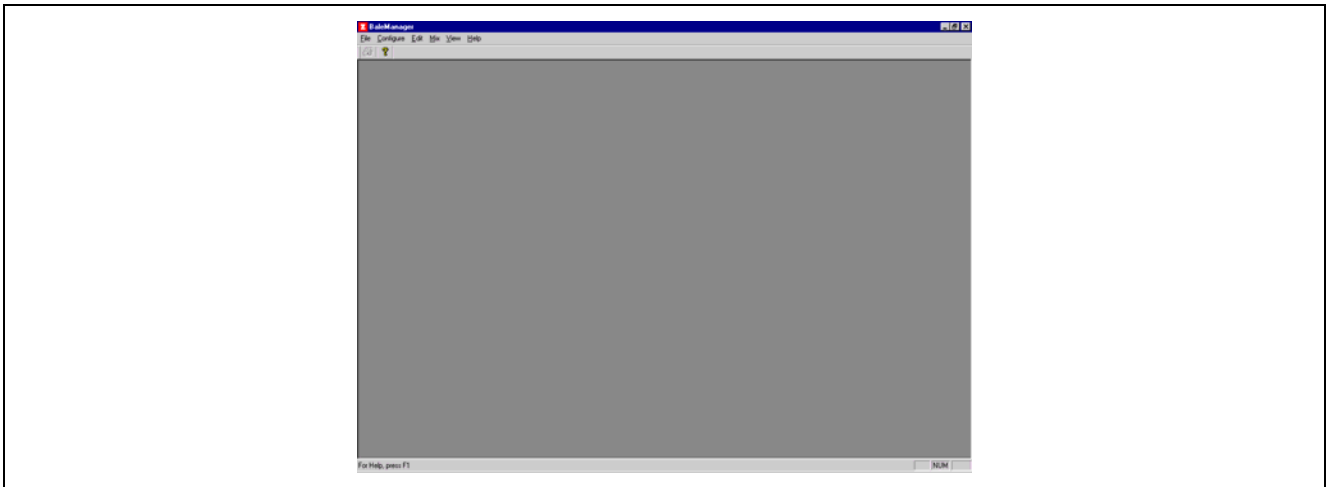

Fig. 6-16 Bale Manager Main Screen
2 Immediately, the Bale Manager window will appear (Fig. 6-16).
- 4.9 Select OK to exit the System Status window and go back to the Bale Manager window (Fig. 6-16).
7.5 Select Exit to complete Growth Area entry and return to the Bale Manager window of Fig. 6-16.
8.3 "Mix name added" will appear (Fig. 6-28). Select OK to return to the Bale Manager window of Fig. 6-16.
8.4 Select OK and return to the Bale Manager window of Fig. 6-16.
9.1 Select OK to return to the Bale Manager window in Fig. 6-16.
10.0 In the Bale Manager window of Fig. 6-16, select File then Import in the drop-down menu.